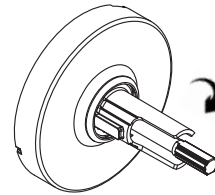

Figure 19
3. Rotate cap clockwise until fully tight (Figure 19).